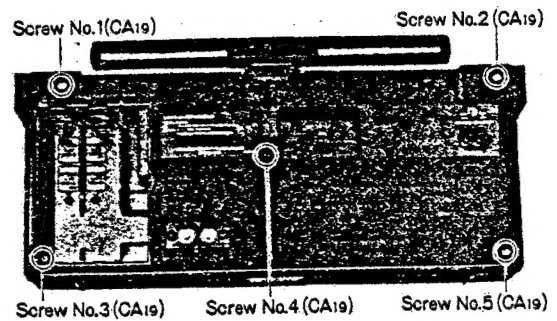

Fig. 1
1. Remove the three (3) knobs for the tuning, fine tuning and band.
4. Remove the five (5) screws (nos. 1~5) for the cabinet back cover, as shown in fig. 1.